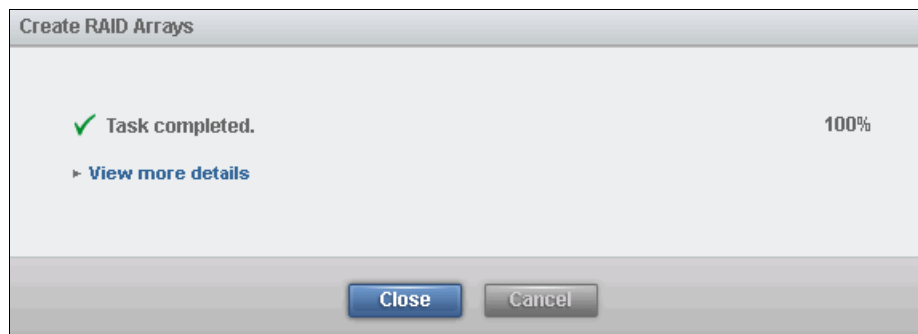

Figure 2-42 Add enclosure Task completed
11. Click **Close** when the task completes, as shown in Figure 2-42.